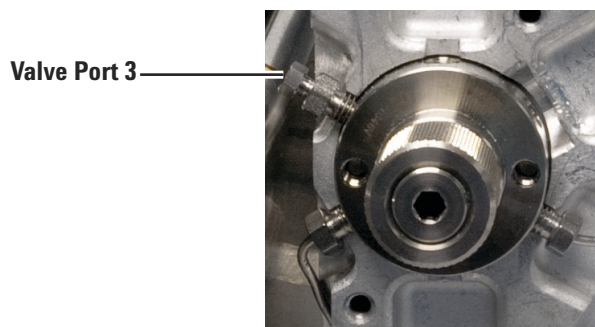

Figure 35 Valve Port 3
- 5 The transfer line will install in valve port 3 (at the 10 O'clock position), as shown in Figure 35.